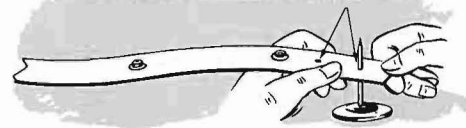

FIGURE 4
4. Pierce tape for master carrier (and return snaps, see Figure 4). Insert eyelet through hole, cover with male snap (see Figure 5) and rivet together, using No. 92900 bench snap tool (see Figure 6) or No. 92901 hand model snap tool. The prepared tape can be used on either panel, depending on the panel edge to which master end of tape is sewn.